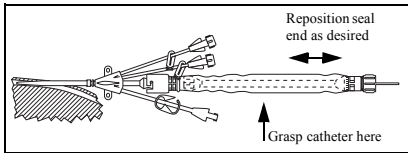

Fig. 13
- Grasp insertion catheter through front portion of catheter contamination shield and hold in place while repositioning Tuohy-Borst adapter end as desired (refer to Fig. 13). **Precaution: Do not reposition Tuohy-Borst adapter end on insertion catheter once moved to this final position.**